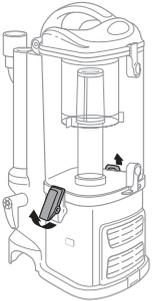

Fig. 17
- 1 Remove the dust cup by lifting the side latches. **(Fig. 17)**